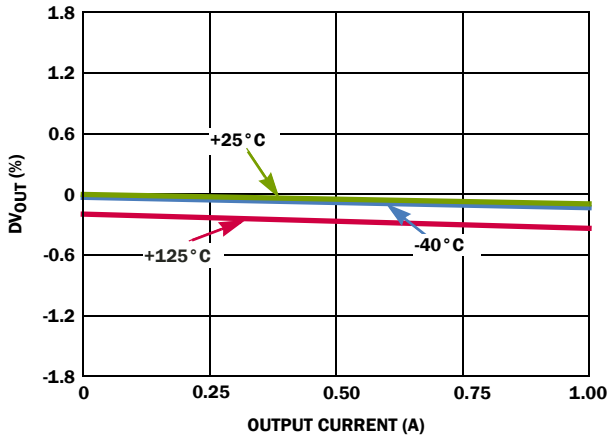
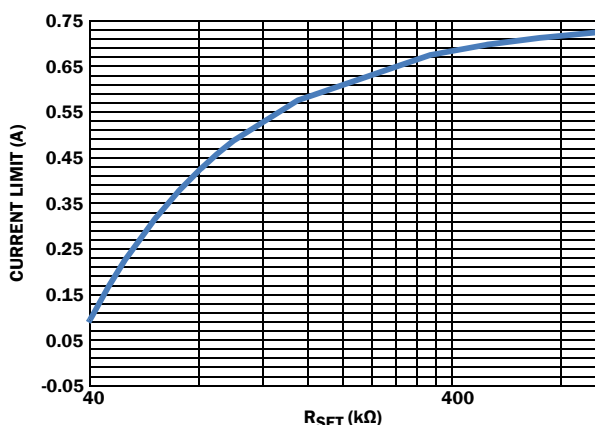

FIGURE 3. OUTPUT VOLTAGE vs OUTPUT CURRENT
FIGURE 12. DECREASING ISET (RSET TO VIN)
Figure 12 shows the relationship between RSET and the current limit when RSET is tied from the ISET pin to VIN for VIN = 5.4V.
| 1/21/11 |          | page 1 Before Features added Table of Key Differences.page 2 Block Diagram - Removed "ADJ Voltage Version" and left the "Sense" Connection.page 3 Pin Number 8, description, 2nd sentence: "Current limit is 0.75mA..." changed to "Current limit is 0.75A..."page 4 Electrical Specifications, AC Characteristics, Input Supply Ripple Rejection Test conditions and Typical values changed from "f = 1kHz, ILOAD = 1A, f = 120Hz, ILOAD = 1A"TO "f = 1kHz, ILOAD = 1A, f = 1kHz, ILOAD = 100mA"page 6, Figure 3 - X-axis label changed from "Output Current (mA)" to "Output Current (A)"page 8, Figure 12 - a. Figure label change. "IN" in " $V_{IN}$ " was subscripted.  |